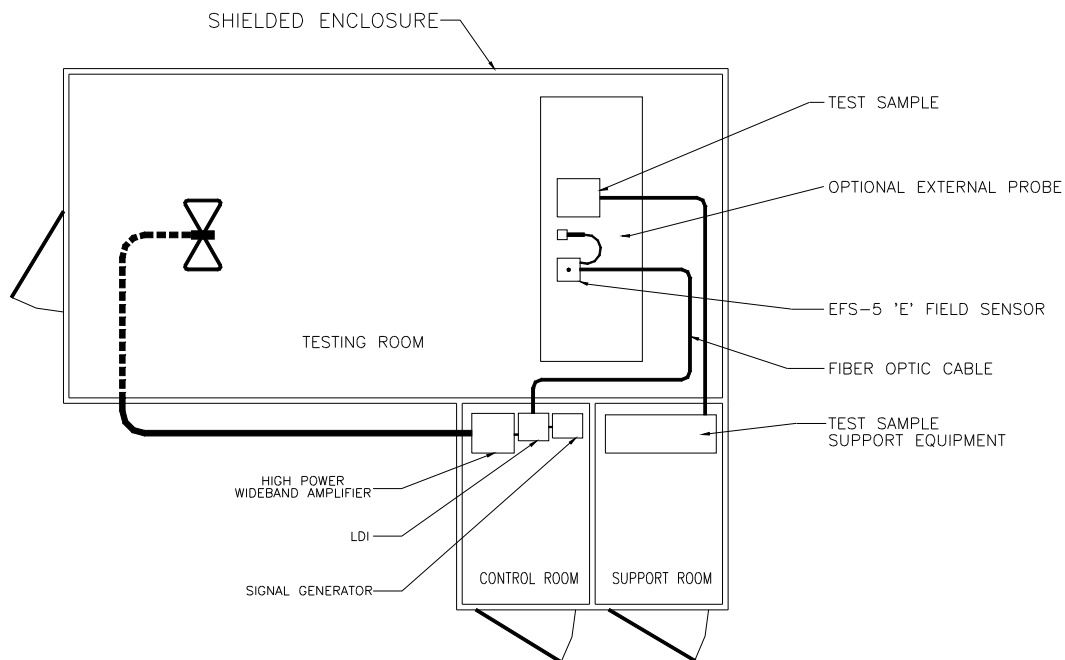

FIGURE 8.0
The Test Set-Up Procedure, refer to Figure 8.0 for a Typical 'E' Field Leveling set-up
- 1) Turn on all equipment shown in Figure 8.0 and allow a three minute warm-up period.
- 6) The system is now ready to be tested with a swept analog or stepped frequency input signal. All IFI component blocks shown in Figure 8.0 are capable of operating continuously from 10 kHz to 220 MHz. Extended frequency coverage, over the full range of the unit, can be provided by substituting an EFS-5 for the EFS-1 and adding a second log periodic or ridged horn antenna.